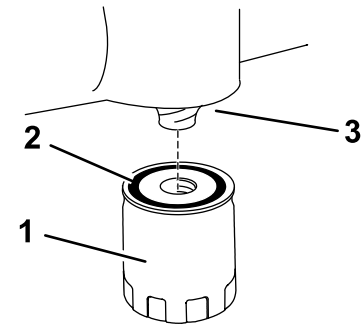

Figure 31
13. Install the replacement oil filter to the mounting pad. Turn the oil filter clockwise until the rubber gasket contacts the pad, then tighten the filter an additional 2/3 to 1 turn (Figure 31).